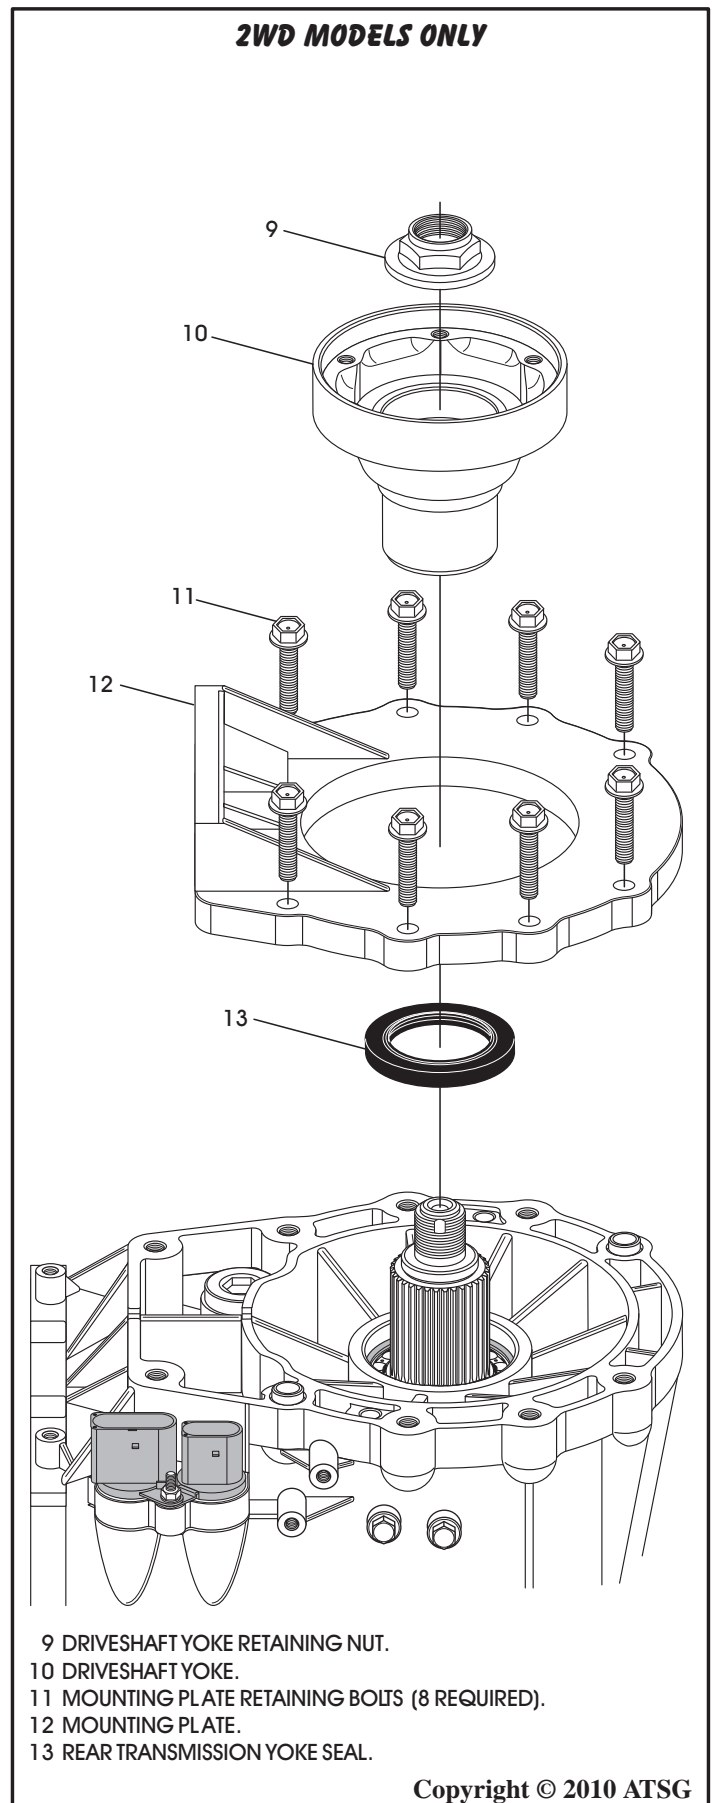

Figure 44
12. However, if you are working on a 2WD model, you must remove the driveshaft yoke nut and the driveshaft yoke, as shown in Figure 44, before you can remove the output shaft.
13. Remove the eight mounting plate retaining bolts and the mounting plate, as shown in Figure 44.